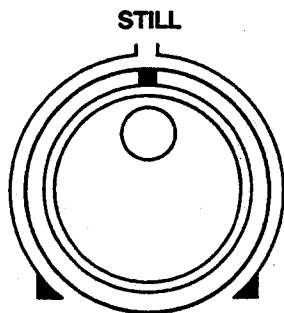

Fig. 1-5 Search/jog knobs position
1. Position the search/jog knob as indicated in Fig. 1-5.
2. Remove the outer rubber ring (tire) (1).
3. Insert a metric hex wrench (1.5 mm) into hole A and loosen the setscrew (2). Remove the jog knob (3).
4. Remove 3 screws (4) and remove the search knob (5).
5. Remove 4 screws (6) and remove the SEARCH/JOG CONTROL assembly.